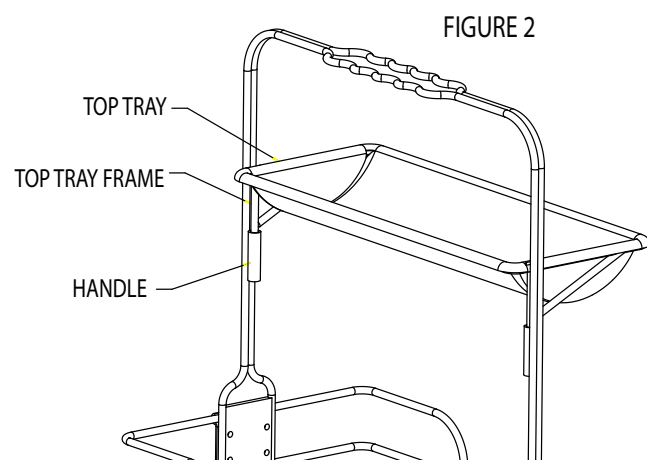

FIGURE 2
Step 2: Insert top tray and frame into the handle (as shown in Figure 2).